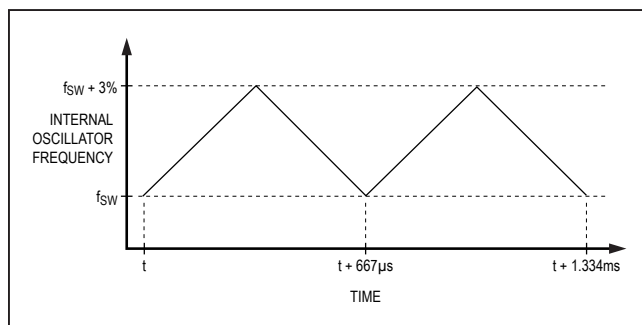

Figure 3. Effect of Spread Spectrum on Internal Oscillator
The PMICs feature a linear spread-spectrum (SS) operation, which varies the internal operating frequency between f_{SW} and $(f_{SW} + 3\%)$. The internal oscillator is frequency modulated at a rate of 1.5kHz with a frequency deviation of 3% (see Figure 3). This function does not apply to an oscillation frequency applied externally through the SYNC pin. Spread spectrum is a factory-selectable option. See the Selector Guide for available options.